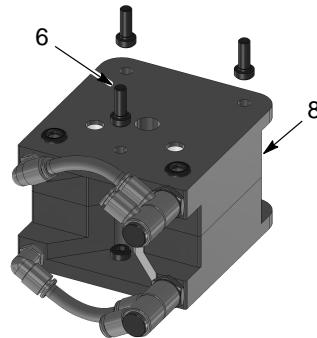

Figure 7-7 Separating Middle Siphon Blocks
4. See Figure 7-7. Remove three cap screws (6) from each middle siphon block (8) to separate the two blocks from each other.
5. See Figure 7-7. Using a 4-mm Allen wrench, insert three cap screws (6) into the tapped side of the middle block (8) to secure them together.